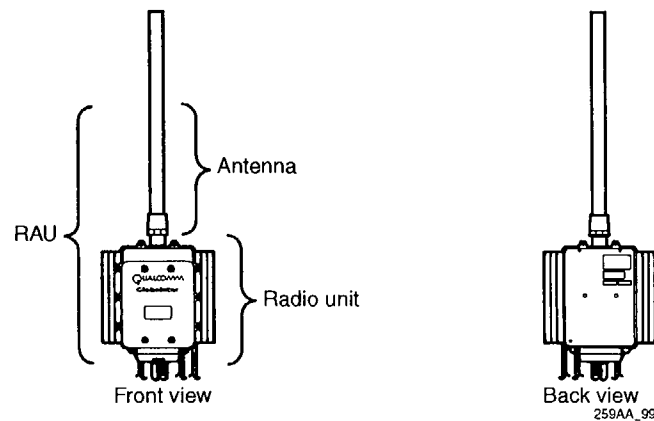

Figure 3. RAU
- One radio unit with attached antenna, the RAU (Figure 3).